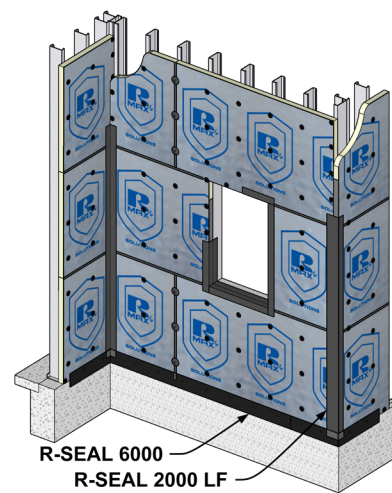

Figure 1
- A change in wall plane is a deliberate change in direction or out of plane framing or substrates. DO NOT span the insulation board across materials that are out of plane more than 1/4". For changes in direction (corners, surface offsets, etc.) the boards should snugly fit in an overlap. **Reference Figure 1 and 8.**